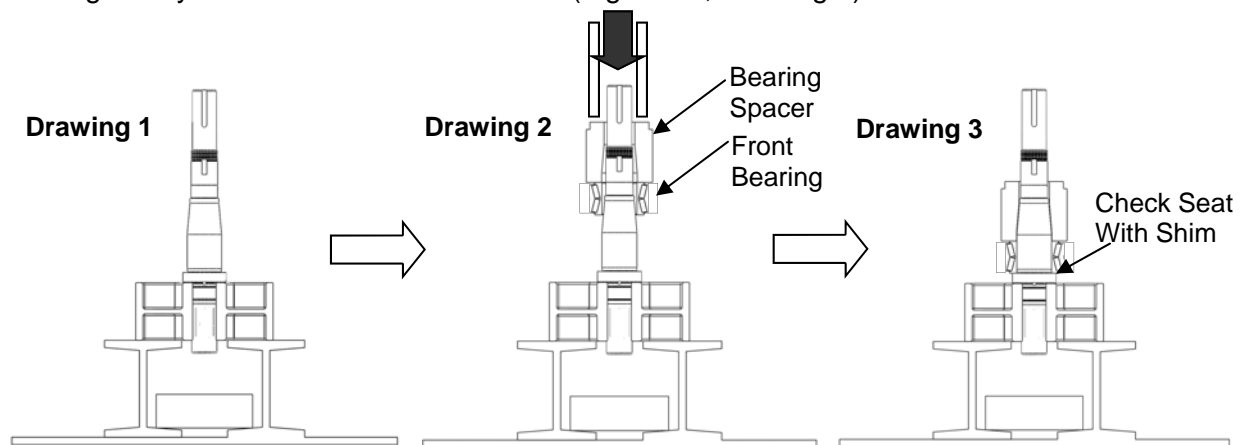

Figure 49: Pressing Front Bearing onto Shaft
1) Clean all reusable parts prior to reassembly. Apply a light coat of lubricant on the shaft area where the front bearing will sit. Position the shaft upright in the press with the splines facing down (Figure 49, Drawing 1). Open the new front bearing assembly and be sure not to interchange any parts. All bearings are manufactured as sets and assembled to have a precise overall length. Place the front bearing over the shaft along with the bearing spacer (Figure 49, Drawing 2). Make sure the bearing and spacer are aligned before pressing them on. Reference Table 5 for the required force (in tons) needed to press the bearings on to the shafts. Using a sleeve that rests on the bearing spacer and rides over the shaft, press the bearing on until it seats against the shaft shoulder. A shim can be used to ensure that the bearing is fully rested on the shaft shoulder (Figure 49, Drawing 3).